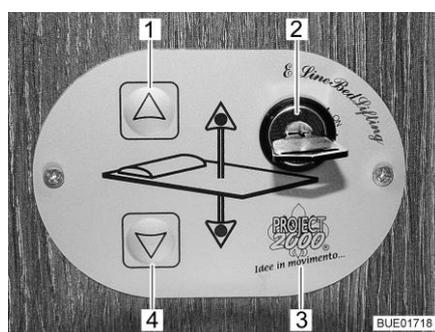

Fig. 95 Control unit
The pull-down bed is raised or lowered using the buttons (Fig. 95,1 and 4) on the control unit (Fig. 95,3). The control unit is protected against unauthorized use with the key switch (Fig. 95,2).
- Turn the key in the key switch (Fig. 95,2) by 90° in a clockwise direction to position "On". The control unit (Fig. 95,3) is activated.
- Press the arrow key (Fig. 95,4) and keep it pressed until the pull-down bed has moved down into the desired position.
- Press the arrow key (Fig. 95,1) and keep it pressed until the pull-down bed has moved down into the final upper position.
If it is no longer possible to move the pull-down bed with the arrow keys (Fig. 95,1 and 4), first of all check the fuses (see section 9.13.1). If the fuses are okay and it is still not possible to move the pull-down bed, the pull-down bed can be operated manually in emergency operation.